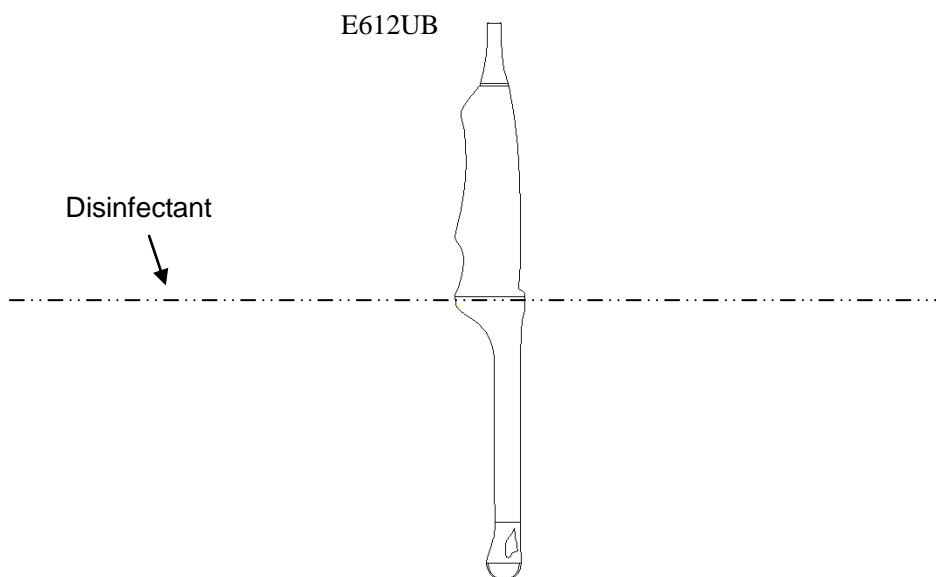

Figure 15-1 Depth of the Transducer Immersed into Disinfectant
5. Place the cleaned and dried transducer in contact with the disinfectant (refers to figure15-1 for the contacting area) for the time specified by the disinfectant manufacturer. For example, the contact time recommended by the manufacturer for soaking in Cidex Glutaraldehyde(2.4%) is at least 45 min.
7. Patient contact area should be immersed into the solution while using the immersion method, but should not exceed the depth shown in figure 15-1.